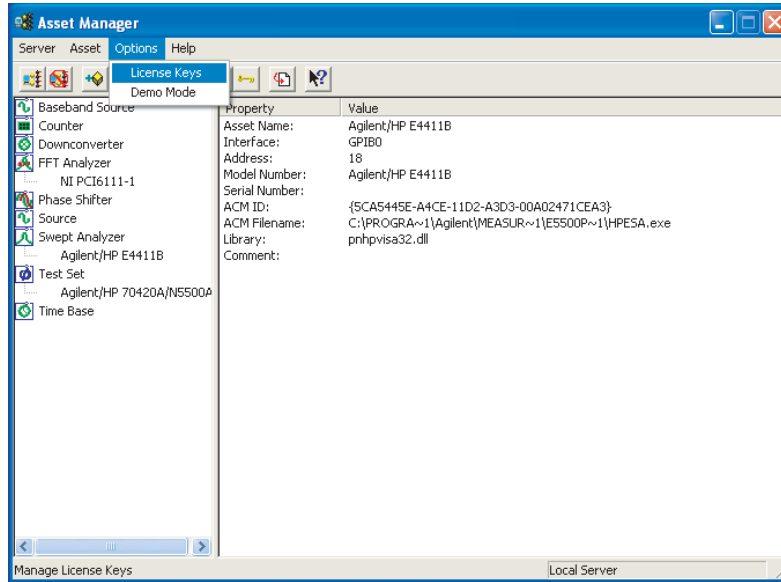

Figure 333 Navigate to license keys
- 3 Click **Options**, and then click **License Keys**. See Figure 333 on page 450.